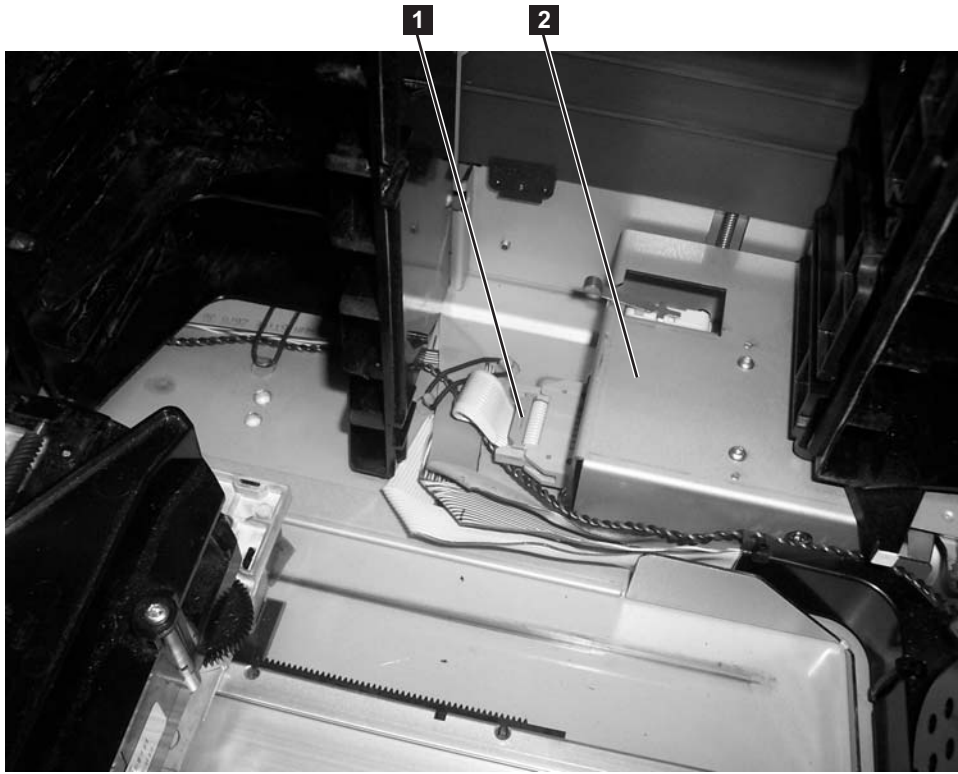

Figure 7-10. I/O Station lock assembly connector (top cover removed)
2. Visually check, and reseat if necessary, the connector on the back of the I/O Station lock assembly. See **1** in Figure 7-10 on page 7-24.